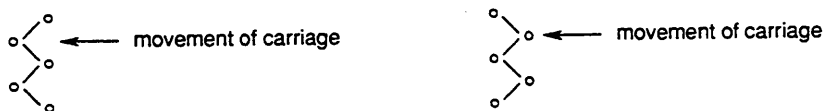

Figure 9-3. Carriage Printing
The carriage should print a straight line, but might print as shown in Figure 9-3.
5. If the line looks like the one shown at the left of Figure 9-3, adjust the value on the display to a bigger value. Then, press the ENT key. If the line looks like the one shown at the right of Figure 9-3, adjust the value on the display to a smaller value and press the ENT key.